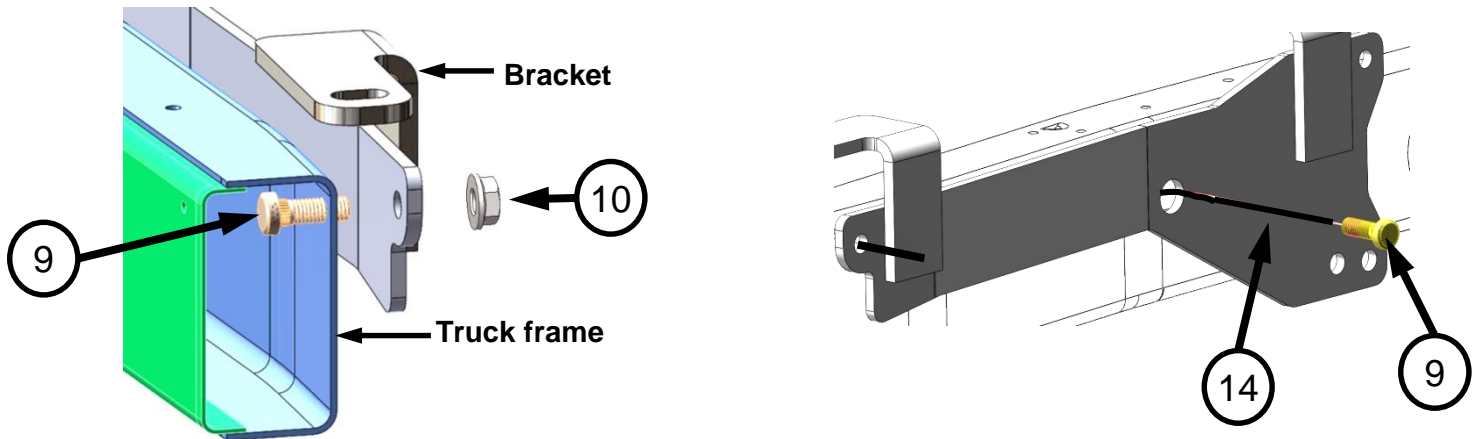

Figure:7 **Front Driver Side Shown**
15. Insert the coiled end of the pull wire (#14) through 17/32" hole (see fig.7), angle the wire to guide the coiled end along the inside of the truck frame rearward. Continue feeding pull wire and look through the 1" dia. bracket hole for the coiled end of the pull wire. Use a pair of needle nose pliers to guide the coiled end of the pull wire out through the 1" dia. hole, ensure the other end of the pull wire remains protruding through the 17/32" hole. Thread the end of the wheel bolt into the coiled end of the pull wire completely. Carefully pull the other end of the pull wire and guide the wheel bolt into the 1" dia. bracket hole. Continue pulling wire so the threaded end of the wheel bolt can be pulled through the 17/32" dia. hole from the inside. Hold onto the wheel bolt with one hand and carefully remove the pull wire from the threads, then install the nylock nut onto the wheel bolt. Use of an air wrench will make seating the serrations of the wheel bolt into the hole much easier. Otherwise you can use a standard 1/2" nut to start pulling the wheel bolt through the hole and then replace it with the nylock nut.